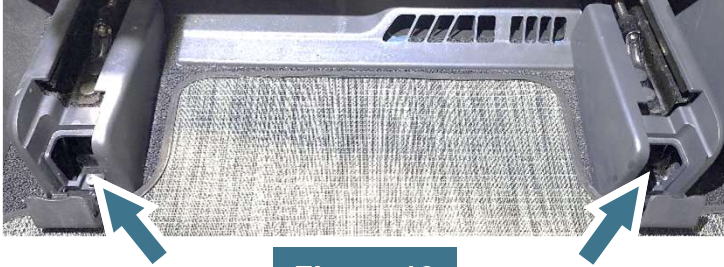

Figure 13
1. Remove the seat adjustment slide trim by removing the screws securing them, then unclip them from the rails. (Figure 13)